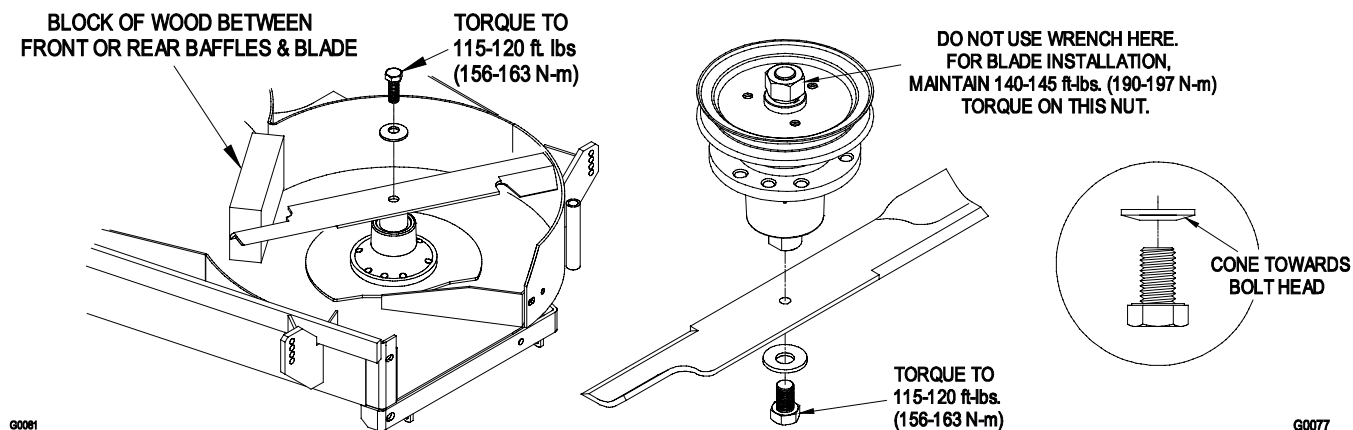

FIGURE 5
- Re-install the blades (if they were removed) by placing a block of wood between the front or rear baffles and the blade then torque the blade bolts to 115-120 ft. lbs (156-165 N-M). Be sure the spring disk washer cone is installed toward the bolt head. (See Figure 5).